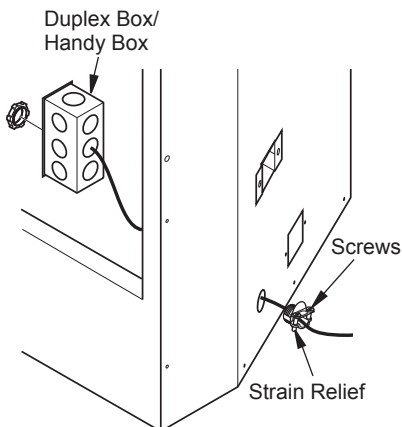

Figure 23 - Hard-Wiring Firebox
2. Route electrical cable through strain relief and handy box (see Figure 23). Tighten screws on strain relief.